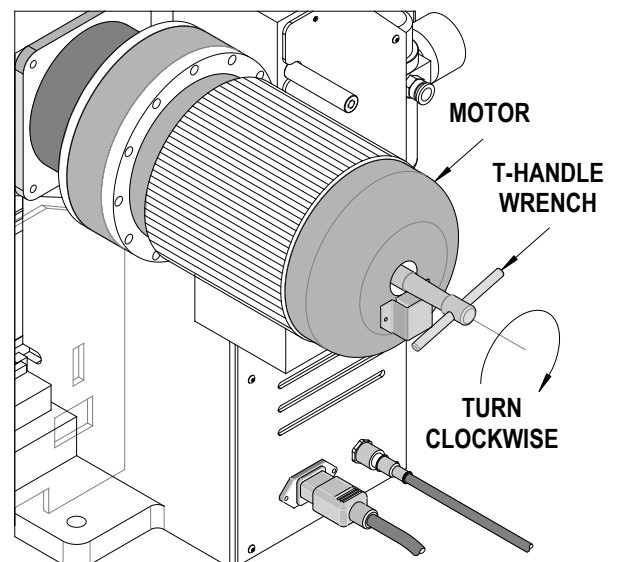

Figure 2-5
1. Insert the hand-cycle T wrench (furnished with the press) through the access hole in the center of the motor's rear cover and locate it on the motor shaft. See Figure 2-5.